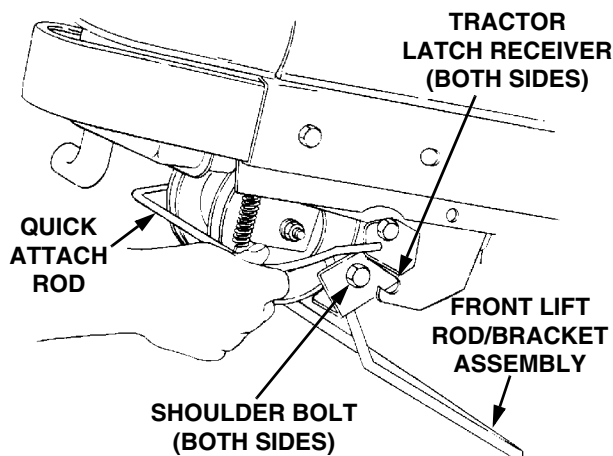

Figure 40
9. From the front of the tractor, push downward and hold the tractor quick-attach rod. Pull the front lift rod/bracket assembly forward to release the shoulder bolts on each side of the bracket from the left and right tractor latch receivers. Release the tractor quick-attach rod. See Figure 40.